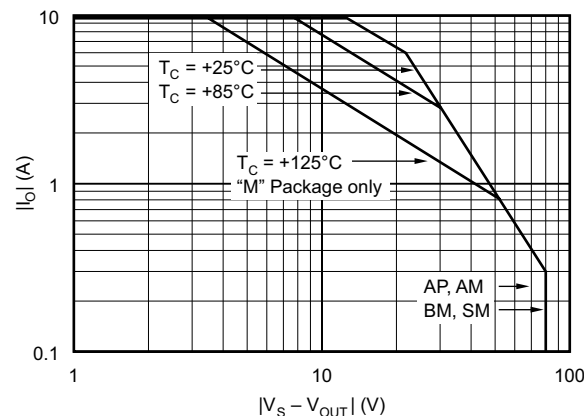

Figure 11. Safe Operating Area
(1) SOA is the Safe Operating Area shown in Figure 11.
The safe operating area (SOA) plot provides comprehensive information on the power-handling abilities of the OPA541. The SOA shows the allowable output current as a function of the voltage across the conducting output transistor (see Figure 11). This voltage is equal to the power supply voltage minus the output voltage. For example, as the amplifier output swings near the positive power supply voltage, the voltage across the output transistor decreases and the device can safely provide large output currents demanded by the load. Short circuit protection requires evaluation of the SOA. When the amplifier output is shorted to ground, the full power supply voltage is impressed across the conducting output transistor. The current limit must be set to a value which is safe for the power supply voltage used. For instance, with $V_S \pm 35$ V, a short to ground would force 35 V across the conducting power transistor. A current limit of 1.8 A would be safe.
Set the current limit to the highest possible value for the application which generally corresponds to a short circuit on the output. In this application this corresponds to 25-V stress on the output device and examination of the SOA (Safe Operating Area) graph in Figure 11 indicates that a 5-A current limit is within the 25°C SOA.